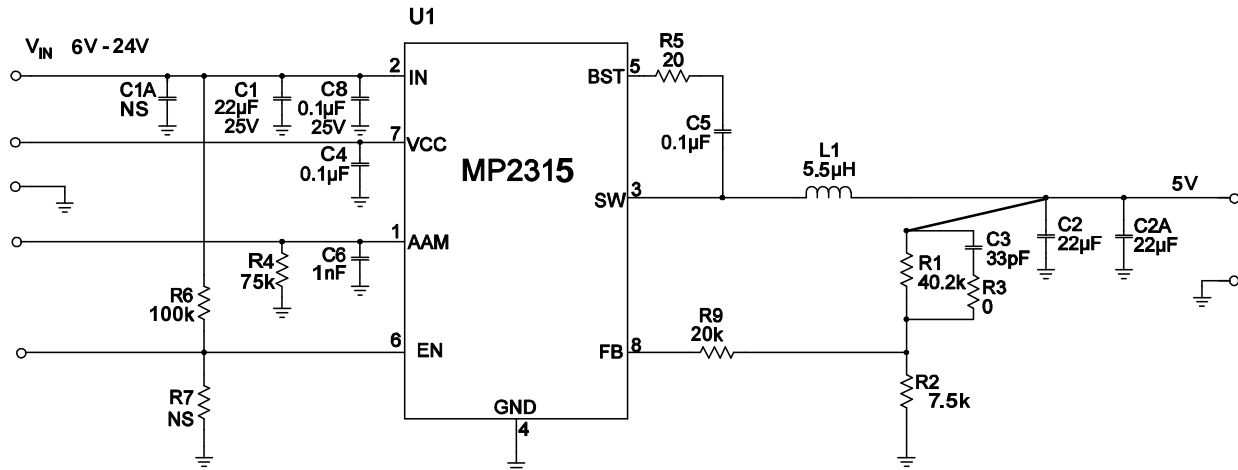

Figure 9: Vo=5V, Io=3A
- 6) The recommended layout is based on the Figure 9 Typical Application circuit on the next page.
The detailed application schematics are shown in Figures 9 through 14. The typical performance and circuit waveforms have been shown in the Typical Performance Characteristics section. For more device applications, please refer to the related Evaluation Board Datasheets.